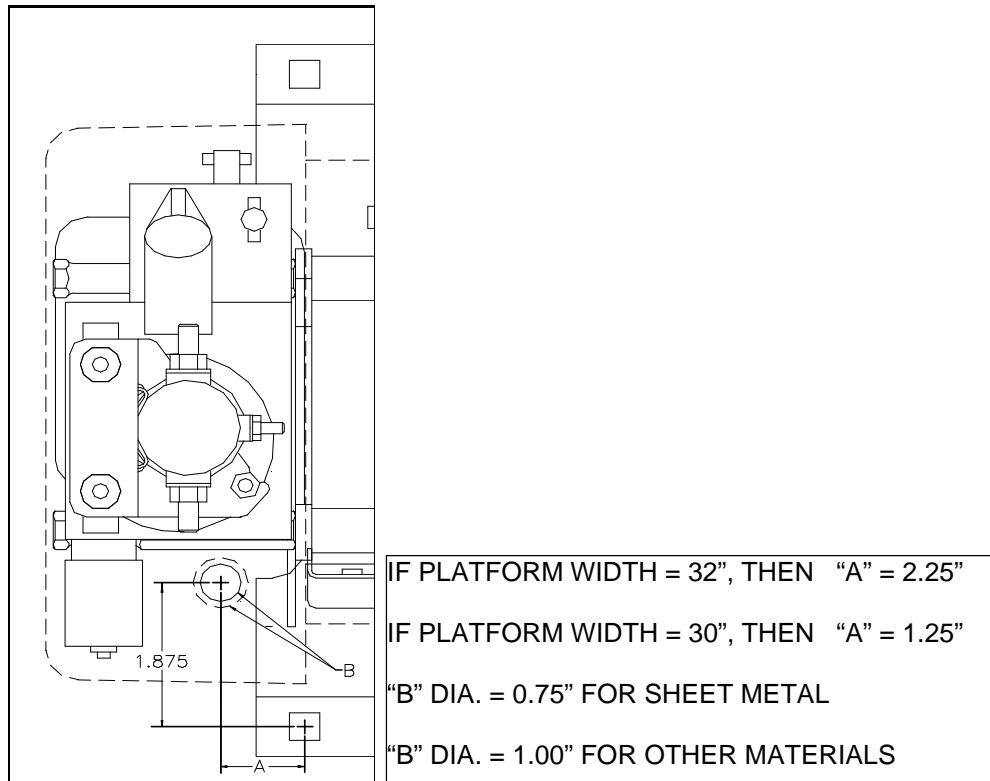

FIGURE 2-10: POWER CABLE ACCESS HOLE
- a. Refer to **Figure 2-10**. Locate and drill a hole through vehicle floor near or under pump cover so power cable may reach positive pole of solenoid, the side opposite to where solenoid is connected to pump motor. The hole should be drilled so that it is hidden by the pump cover.